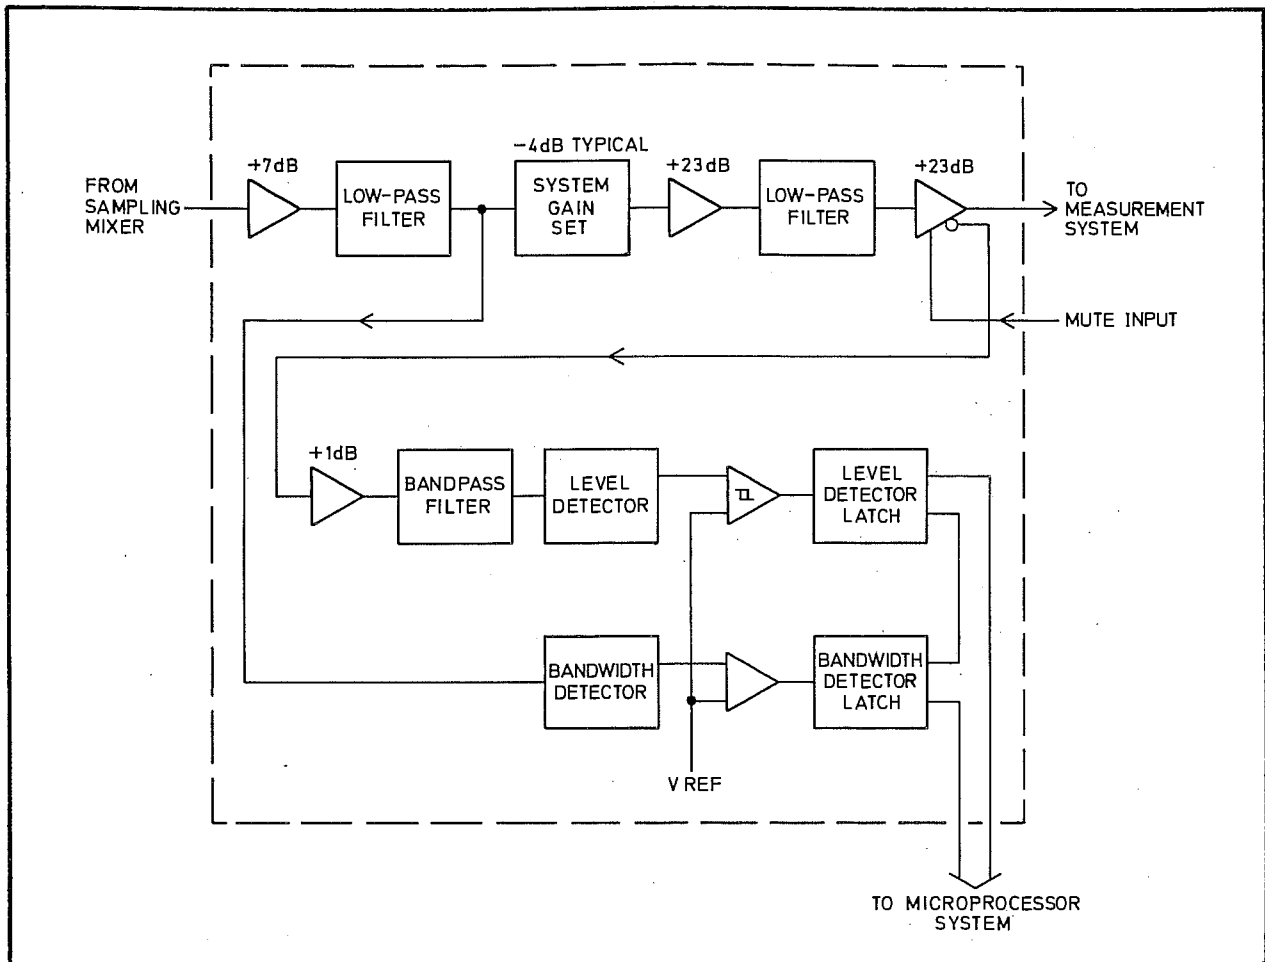

Fig. 6.8 The IF Processor
- 65 The IF processor contains most of the IF conditioning circuits for selecting the appropriate IF from the sampler during acquisition, and converting the signal to a countable form. A small part of the IF conditioning circuit is also contained within the sampler module 17- 1102 and on the motherboard 19-3022. The sampler module is a sealed, non-user-serviceable item. A block diagram of the IF Processor is given in Fig. 6.8.